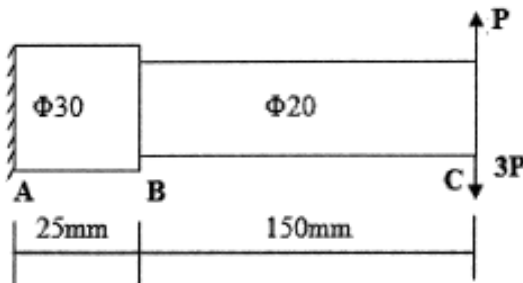

Fig. 01
11. a) A Cantilever beam made of cold drawn steel 40C8 ($S_{ut} = 580 \text{ MPa}$ and $S_{yt} = 350 \text{ MPa}$) as shown in Fig. 01. It is subjected to load at the free end which varies from $-P$ to $3P$. The notch sensitivity factor at the fillet is 0.8. The surface finish factor and size factor are 0.85 and 0.89 respectively. The theoretical stress concentration factor is 1.5. Determine the maximum value of P such that the cantilever beam will withstand for infinite life. Take factor of safety as 2. 16